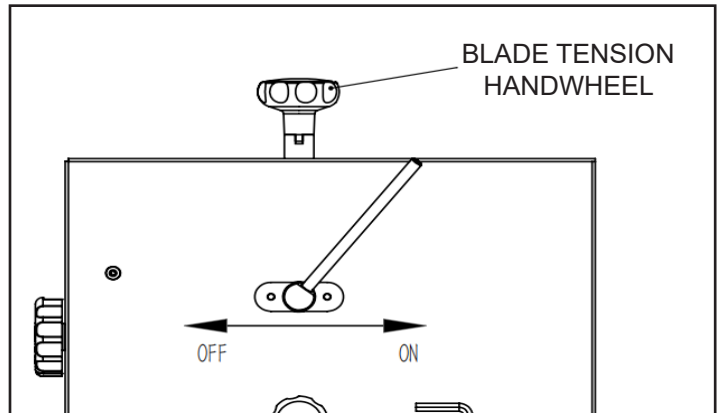
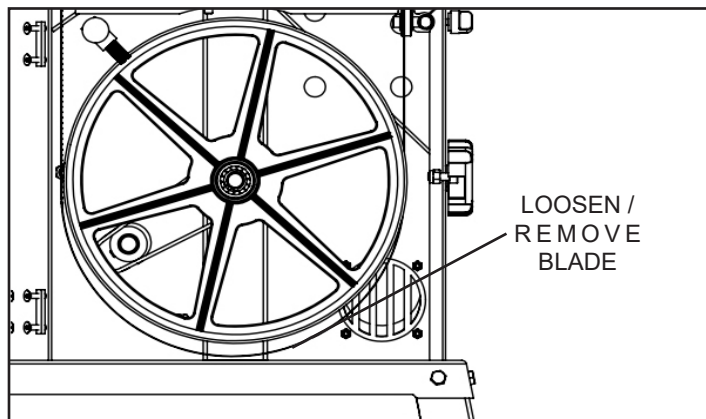

FIGURE 15
FIGURE 26
CAUTION Always tension the blade with the rear Quick Release Lever (#20) in the “ON” position. Failure to do so could result in lack of blade tension or tension failure. FIG. 15.
1. To adjust the blade tension, turn the Blade Tension Handwheel (#20) on the top of the saw. FIG. 15.
4. Release the blade tension by moving the quick release Tension Lever from right to left. FIG. 15.
5. Remove the saw blade from the top wheel then feed it through the upper blade guides, slot in the table, lower blade guides, out of the left slot in the column of the machine (D), and off of the bottom wheel.
6. When installing the new blade, reverse the steps in item 6 above. Ensure that the blade teeth are pointing downwards and towards you at the position where the blade passes through the table.
8. Re-tension the new blade by moving the quick release lever back to the ON position, FIG. 15, and check the blade tracking. The blade should run in the center of the wheels. Refer to “Tracking the Saw Blade” on page 13 for details.
1. Release the tension on the bandsaw blade (See page 14, FIG. 15) and move the blade off of the lower wheel, or take the blade totally off from the saw. FIG. 26.
3. Take the Lower Wheel (#34) off of the saw by removing the Retaining Ring (#33) that is in the middle of the lower wheel. FIG. 26.